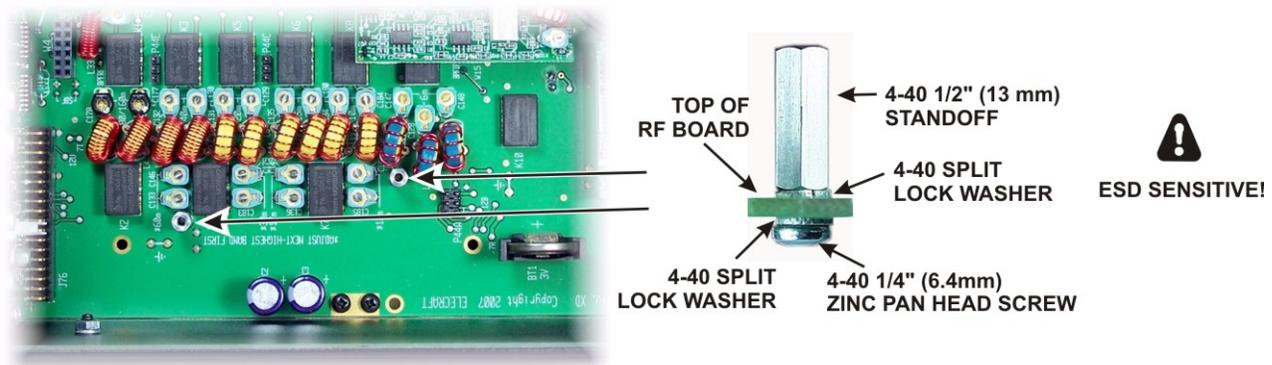

Figure 11. Installing KBFP3 Standoffs.
- ☐ Install two 1/2" (13 mm) standoffs on the RF board as shown Figure 11. Use the hardware exactly as shown. The lock washer between the standoff and the pc board is very important to establish the correct height above the board.